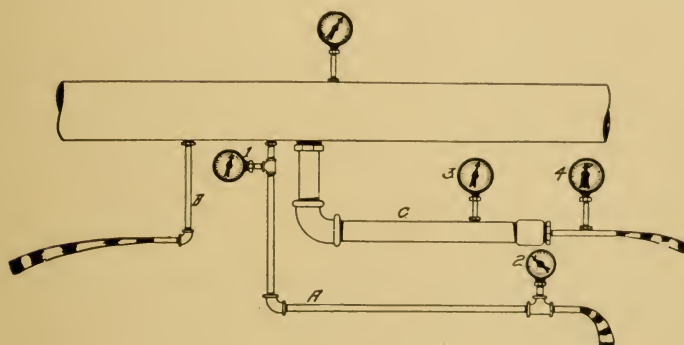

FIGURE 8
2. Explain Figure 8.
(2) Fig. 8 shows pipes A and B of equal diameter and of equal smoothness inside. Both receive water at the same pressure. Pipe B, being much shorter, has much greater pressure at its open end. This illustrates the effect of pipe length in resistance. Pipe C provides practically full pressure up to its point of jointure with the smaller pipe, although the smaller pipe is open and discharging its full capacity of water. In such case the resistance of the small pipe, per unit of length, would be high; that of the large pipe, very low. It is due to difference in the rapidity of the flow of water in the two pipes.
(5) If we substitute circuits of wire for the water main and wire circuits for pipes E, A and G, in Fig. 8, and substitute voltmeters for the pressure gauges, with lamps or motors instead of the open ends of the pipes,